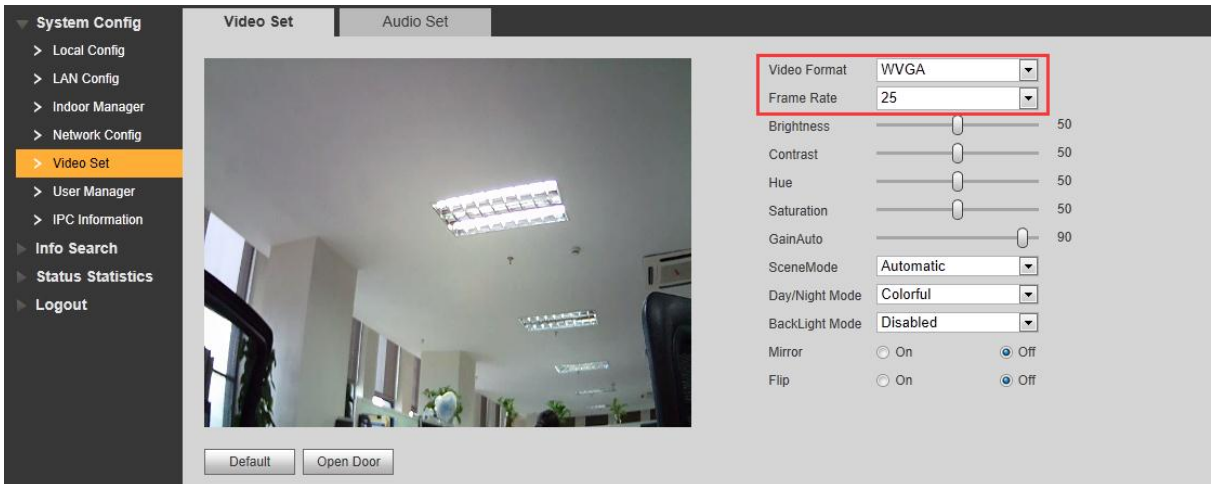

Figure 2-4
b) Now you can set local information. See Figure 2-4.